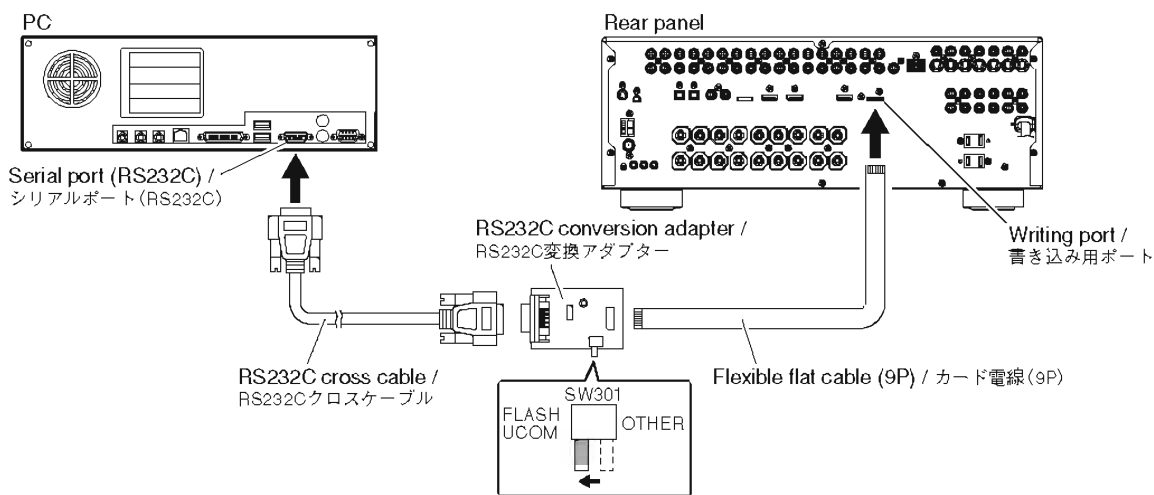

Fig. 1
2. Set the switch (SW301) of RS232C conversion adapter to the "FLASH UCOM" side. (Fig. 1)
3. Connect the writing port of this unit to the serial port (RS232C) of the PC with RS232C cross cable, RS232C conversion adapter and flexible flat cable as shown below. (Fig. 1)